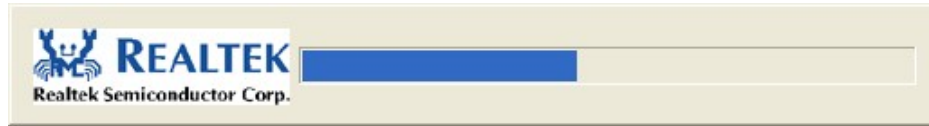

Figure 6-23: Audio Driver Installation
Step 6: The driver installation begins. See **Figure 6-23**.